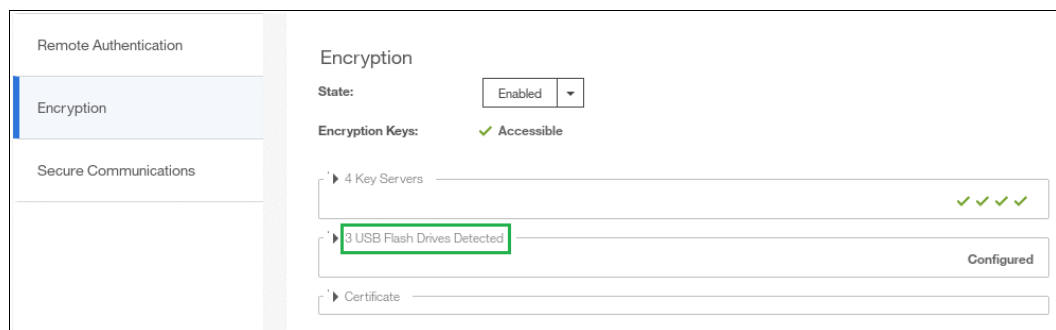

Figure 13-78 Locate USB Flash Drive section in the Encryption view
1. Click **Settings** → **Security** → **Encryption**. Click on the USB Flash Drives section label to expand the section as shown in Figure 13-78.